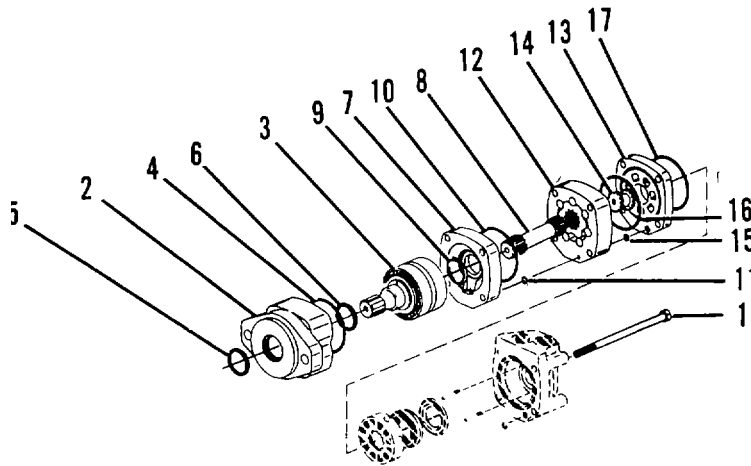

Figure 4-10. Hydraulic Motor Assembly.
- (e) Remove four bolts (1, Figure 4-10).
- (g) Slide off bearing housing (2) and press the shaft and bearing assembly (3) from the housing.
- (h) Remove preformed packing (4) and seals (5 and 6) and discard.
- (i) Remove the wear plate (7) and drive shaft (8).
- (j) Remove and discard seal (9) and preformed packings (10 and 11).
- (k) Remove the geroler assembly (12) being careful not to upset the rotor or rollers within.
- (l) Remove valve plate (13) and drive (14).